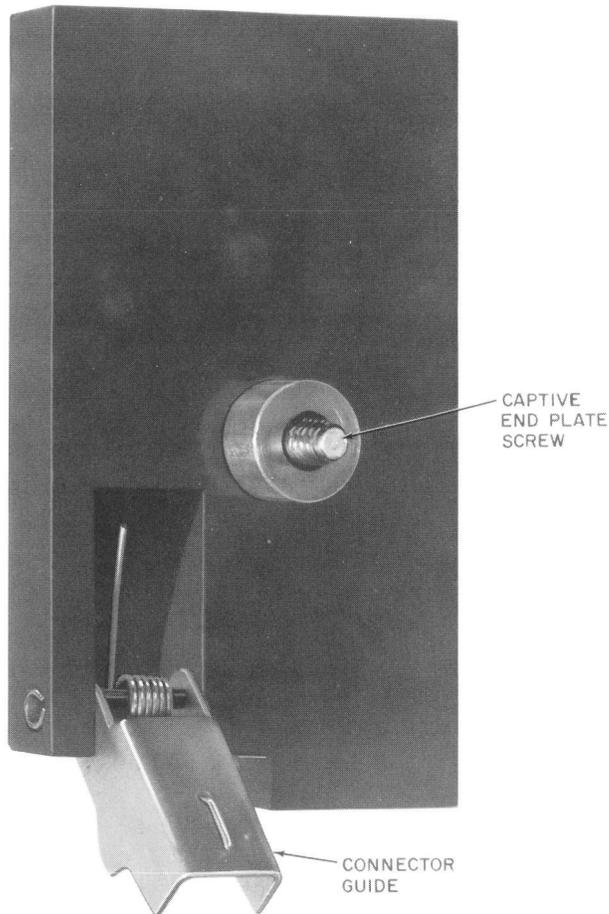

Fig. 9—Connector Presser End Plate Removed
3.09 Slivers of tape or other foreign debris can build up the connector area and cause misfeeding or other malfunctions. The cutting blade and presser die should be cleaned monthly, or as required, by removing the end plate on the left-hand side of the tool and brushing out the accumulated debris (Fig. 9 and 10).